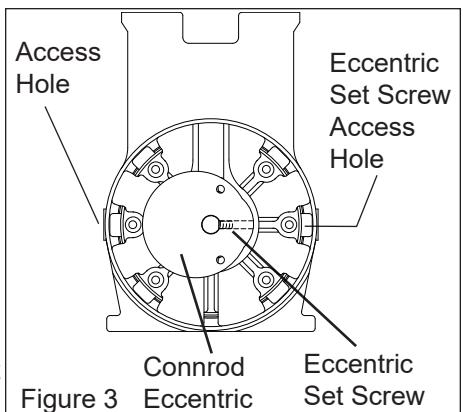

Figure 3
STEP 7. Insert the 5/32" Hex wrench into the access hole on the side of the pump housing. Loosen the set screw 1/4 turn. Rotate connecting rod to top dead center (180°) and slide the connecting rod/eccentric assembly off the shaft and through the opening in the housing. See figure 3.